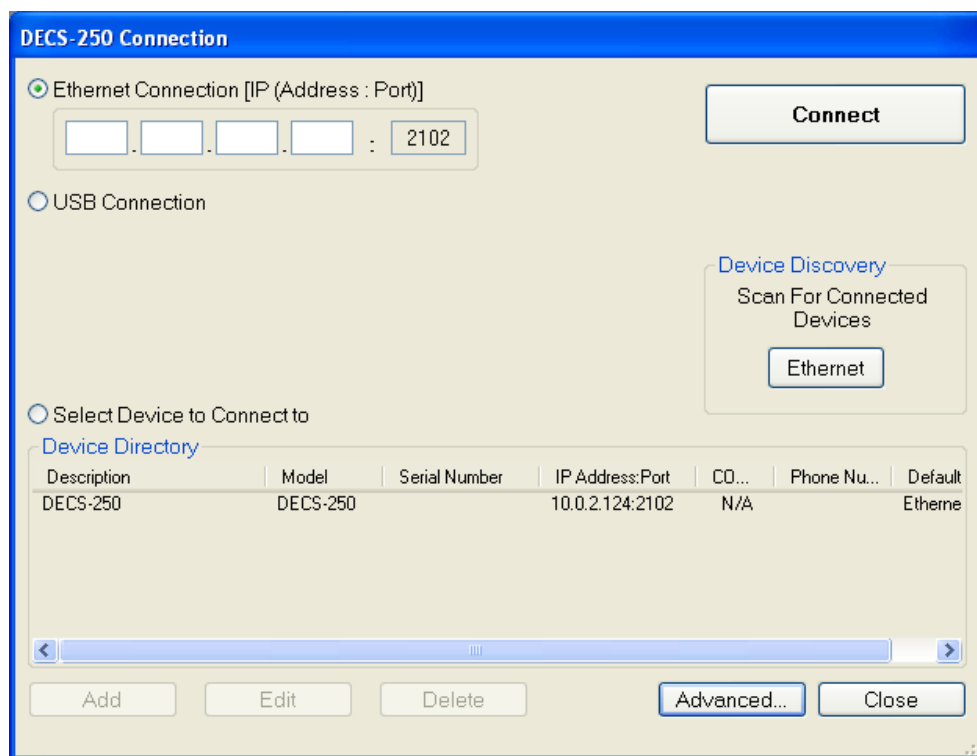

Figure 143. DECS-250 Connection Window
2. In *BESTCOMSPlus*, click *Communication*, *New Connection*, *DECS-250N*, or click the *Connection* button on the lower menu bar. The DECS-250 Connection window appears. (Figure 143)